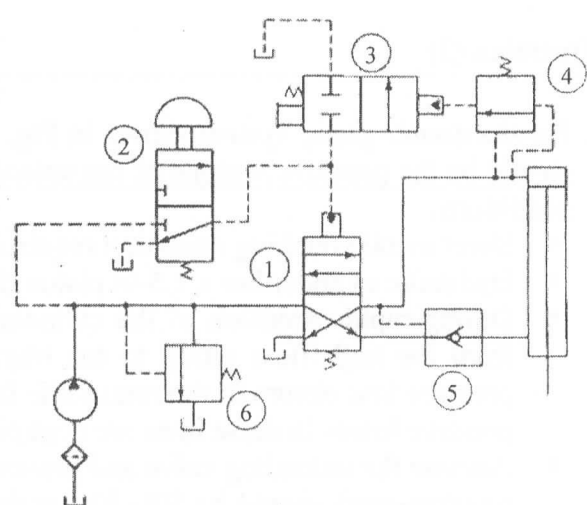

Fig. 4 Fail-safe circuit for question (3_2)
3. Figure 4 shows a fail-safe circuit with overload protection. The purpose of the circuit is to prevent the cylinder from accidentally falling on an operator as well as prevent overloading of the system.
- What is the purpose of using valve (5) in the given circuit?